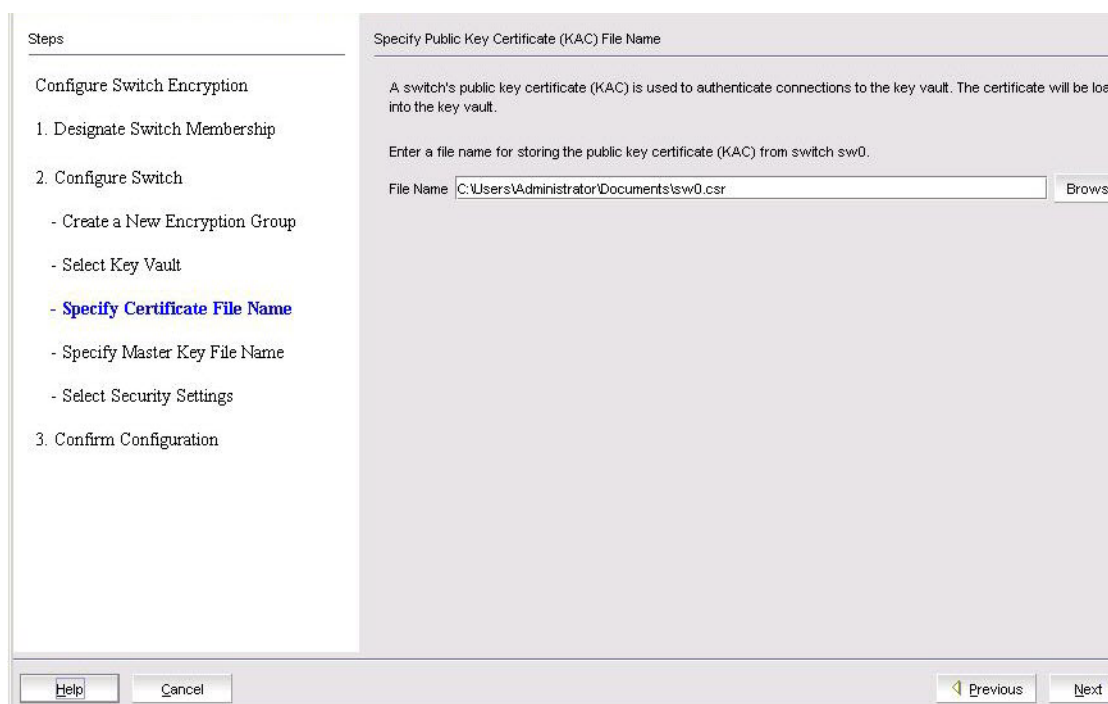

FIGURE 281 Specify Public Key Certificate (KAC) File Name dialog box
- **CA Signed:** The KAC certificate is signed by a CA, imported back on the and registered as a KAC certificate. The CA will be registered as a key vault certificate on the . If you selected **CA Signed**, the wizard opens the **Specify Public Key Certificate (KAC) File Name** dialog box (Figure 281). Go to Step 7.
The **Specify Public Key Certificate (KAC) File Name** dialog box displays. (Refer to Figure 281.)